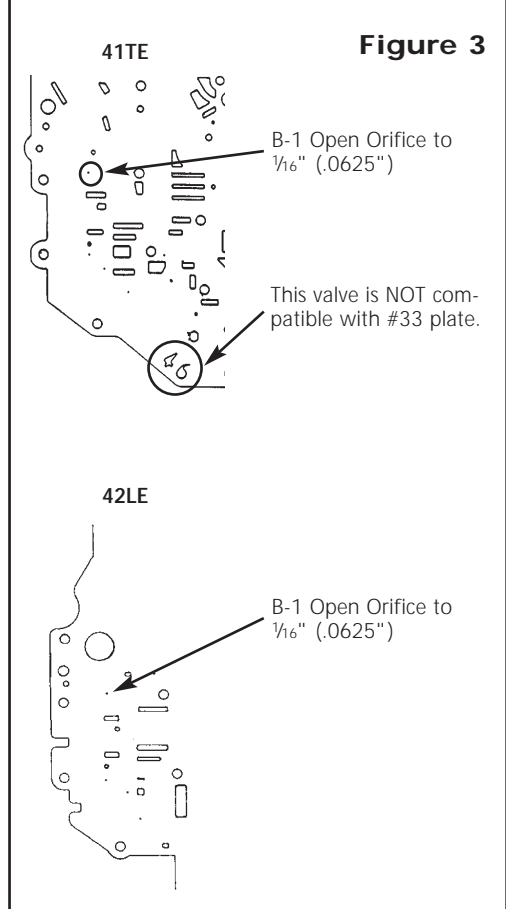

Figure 3
3. Drill out the "B-1" hole in the separator plate to  $\frac{1}{16}$ " (.0625") (see Figure 3).